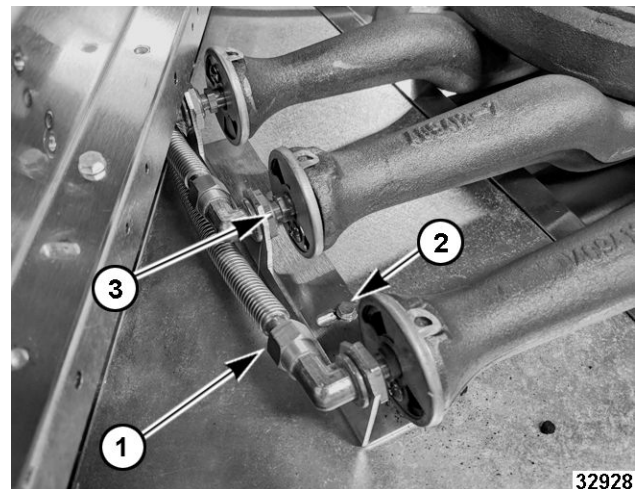

Fig. 80
7. Remove burner gas flex lines (1, Fig. 80) in three places.
8. Remove screws (2, Fig. 80) in two places securing burner nozzle mount bracket.
9. Remove burner nozzle bracket and burner nozzles (3, Fig. 80).